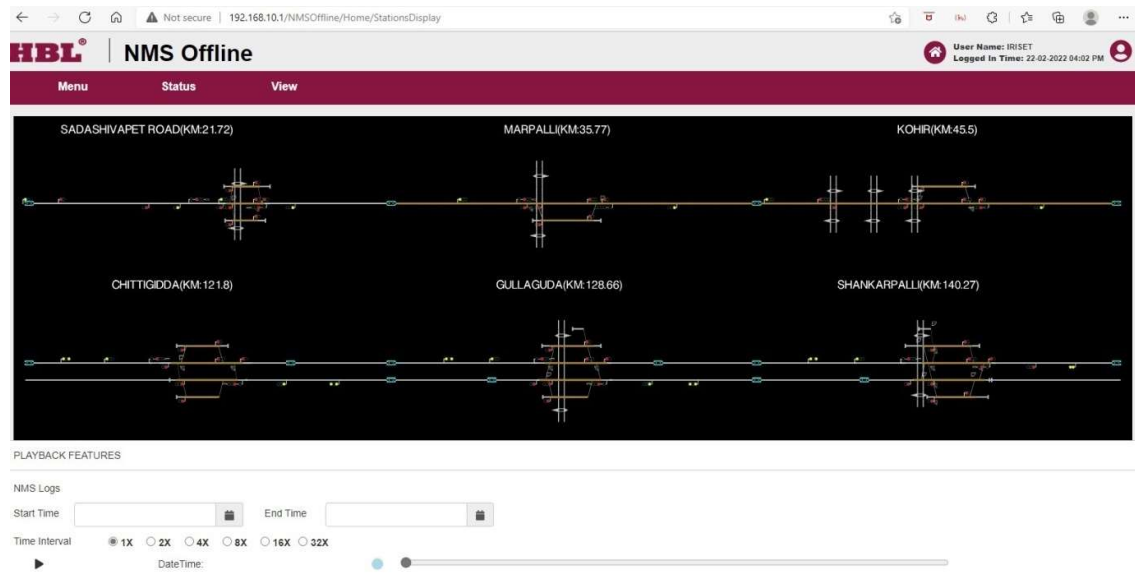

Fig 9. Selection of log screen
2. After clicking on the show the screen will have an option for selection of log to display the previous events as shown in fig 9.